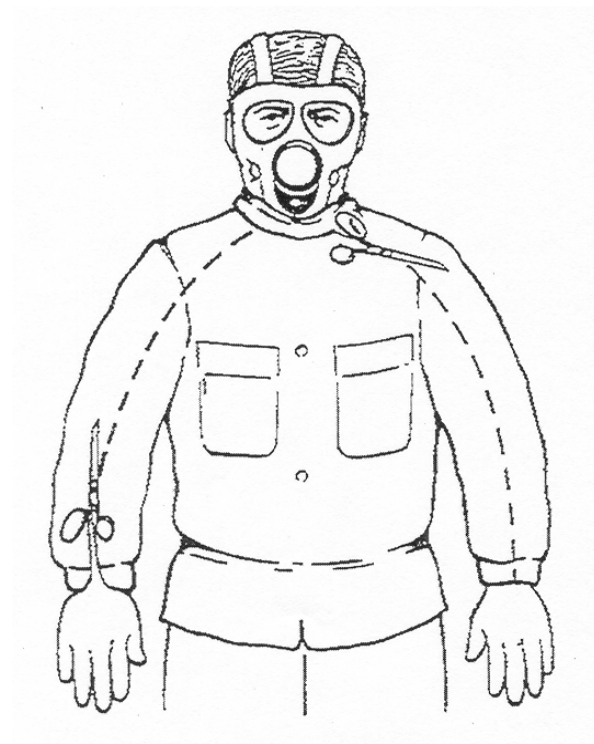

Figure 3-3. Removing the protective over-garment jacket.
(1) Cut the sleeve from the cuff up to the shoulder of the jacket, and then through the collar.
(2) Keep the cuts close to the inside of the arms so that most of the sleeve material can be folded outward (see Figure 3-3).